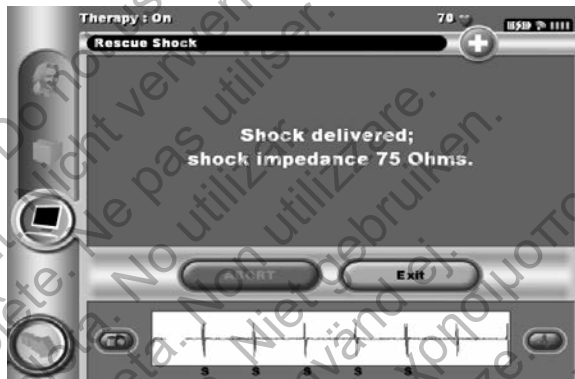

Figure 53: Confirmation of Rescue Shock delivery.
3. A confirmation screen will appear with notification that the shock was delivered successfully along with the corresponding shock impedance (Figure 53).